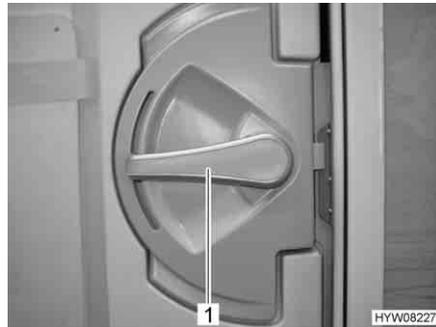

Fig. 31 Door lock of conversion door, inside
- Opening:* ■ Push the handle (Fig. 31,1) down.
- Locking:* ■ Turn the handle (Fig. 31,1) approx. 45° upward and leave it in this position.